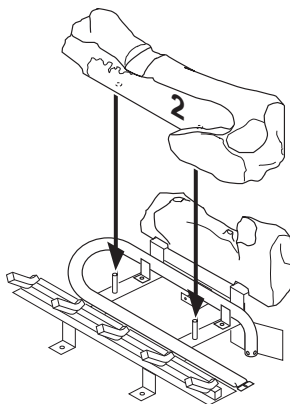

Figure 42 - Installing Log No. 2
3. Rest log #2 (large front log) on the pins on the front part of the grate (see Figure 42).